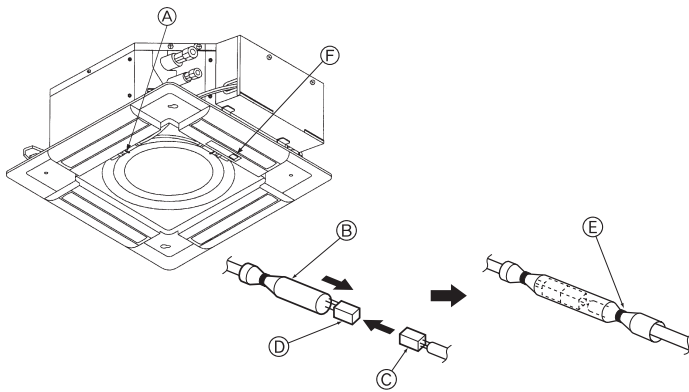

Fig. 5-8
5.3.4. Elektroanschlüsse (Fig. 5-8)